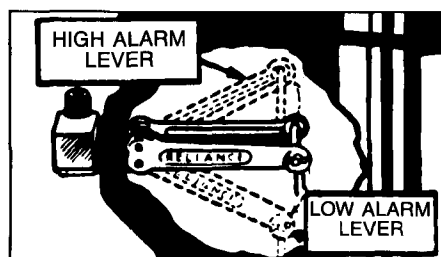
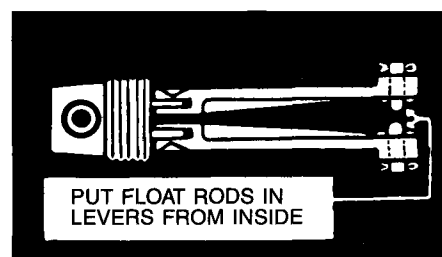

Figure 10
Figure 11
5. Hook float rods into levers from the inside out, so that the cotter pins will be on the outside of the levers. (See Fig. 11). Make sure low alarm rod in in low alarm lever (See Fig. 10) and insert new style cotter pins which require no spreading.